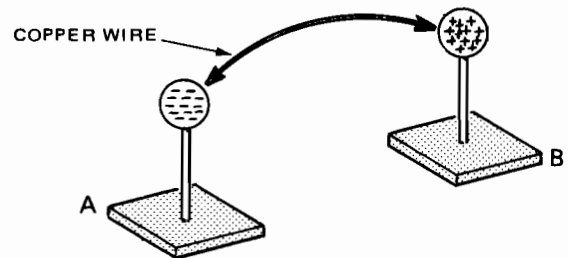

Fig. 2-1-1
2. If an electrical conductor of copper wire is connected between objects A and B of Fig. 2-1-1, what will happen? _____
3. Before copper wire is connected between objects A and B in Fig. 2-1-1, these objects possess a difference in potential charge. How else could term "difference in potential" be expressed?